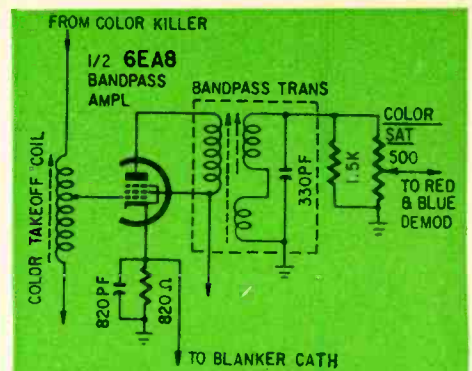

Fig. 7—Bandpass amplifier sounds mysterious, but is no different from typical AM, FM or TV i.f. stage.
7. Bandpass amplifier (Fig. 7). Actually, this is hardly worth illustrating. If you've ever seen an i.f. stage in a radio or the sound i.f. in a TV set, you've seen the same circuit. Color signal goes to the grid from the color takeoff coil, and the plate feeds the "bandpass" transformer. This is used to clean up the color signals and keep out interference from other circuits. On the secondary of the transformer is a control usually called *saturation*, but which I think ought to be called a "color volume control," since that's how it works. It simply regulates the amount of color signal.